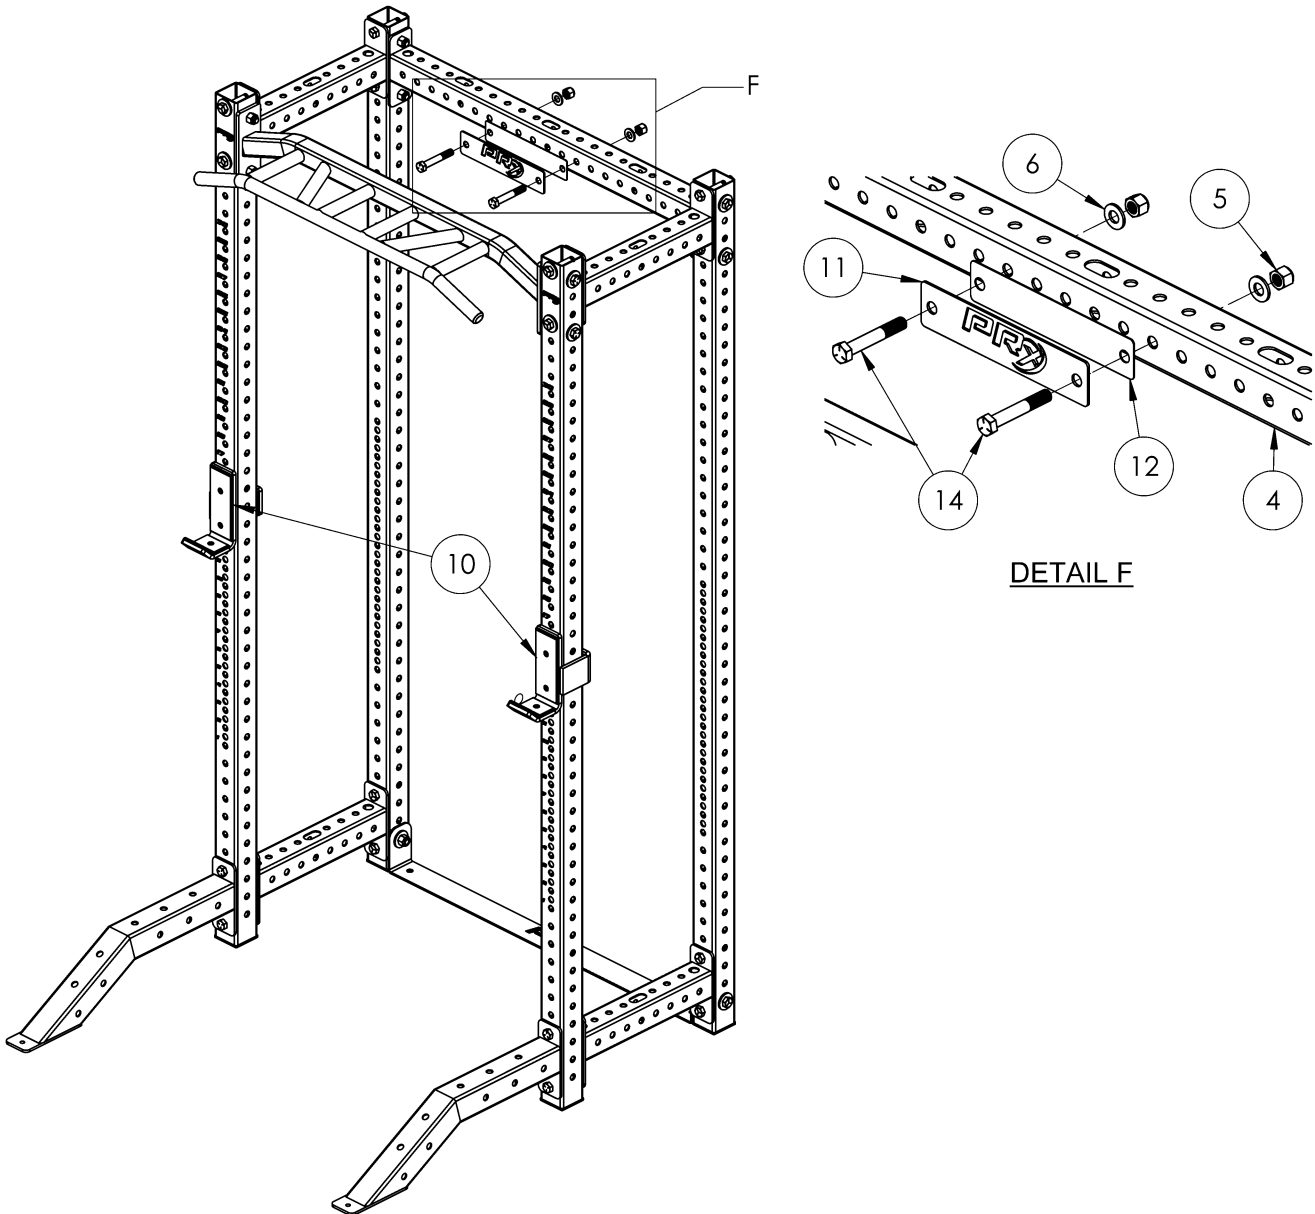

Figure 4
1. Attach PRx Logo Plate (11) and Backer Plate (12) with hardware shown. **Figure 4, Detail F**
2. Attach J-Cups (10) onto your uprights.